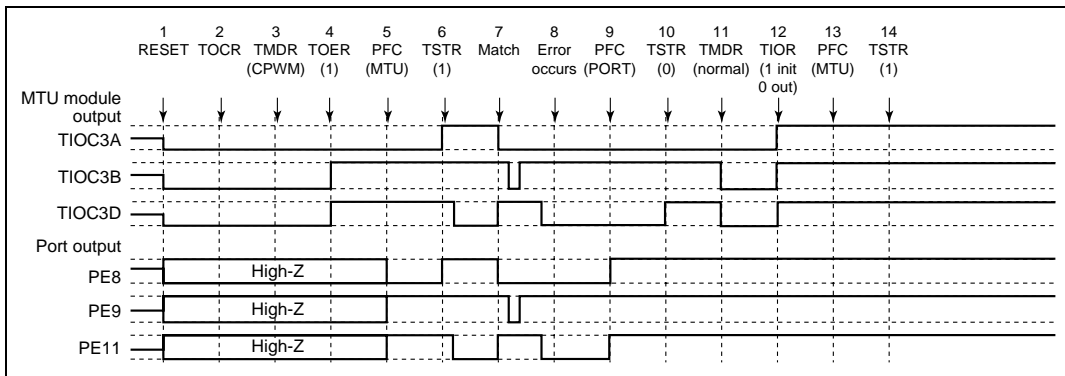

Figure 10.105 Error Occurrence in Complementary PWM Mode, Recovery in Normal Mode
(21) Operation when Error Occurs during Complementary PWM Mode Operation, and Operation is Restarted in Normal Mode: Figure 10.105 shows an explanatory diagram of the case where an error occurs in complementary PWM mode and operation is restarted in normal mode after re-setting.
1 to 10 are the same as in Figure 10.105.